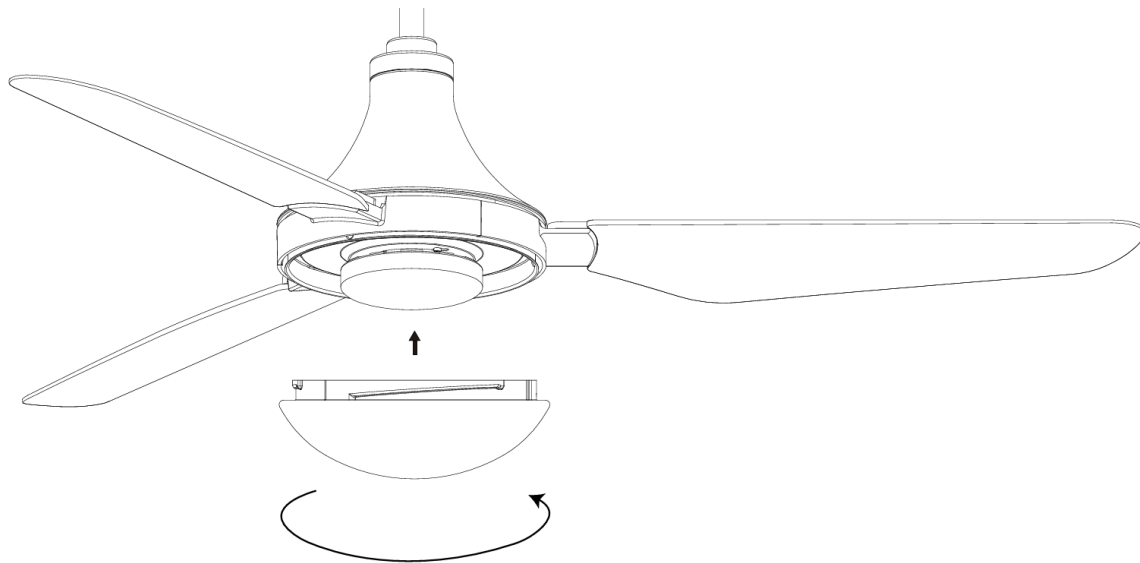

Fig. 8
- Install the glass shade on the light kit plate then secure it by turning clockwise. (Fig. 8)